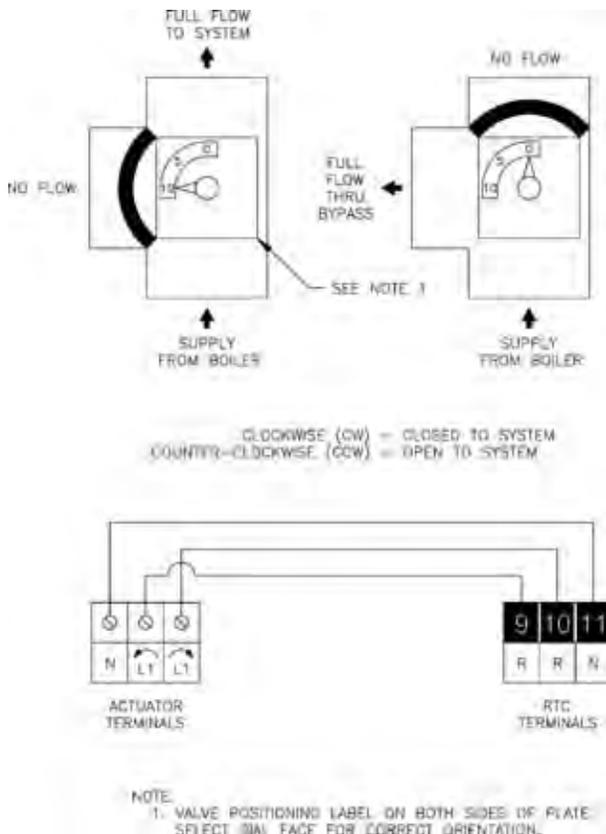

Figure 39a: Diverting Valve/Actuator Wiring (CCW - Open to System)
1. Valve Actuator – The valve actuator is mounted to the top of the diverting valve. Mount and connect the actuator as illustrated in Appendix C. The electrical connections depend on valve orientation. Use Figures 39a and 39b as a guide.